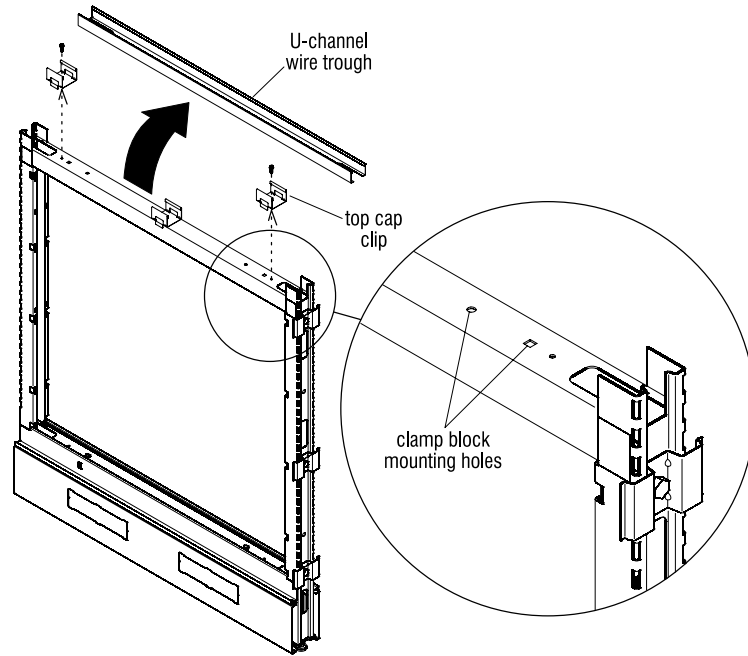
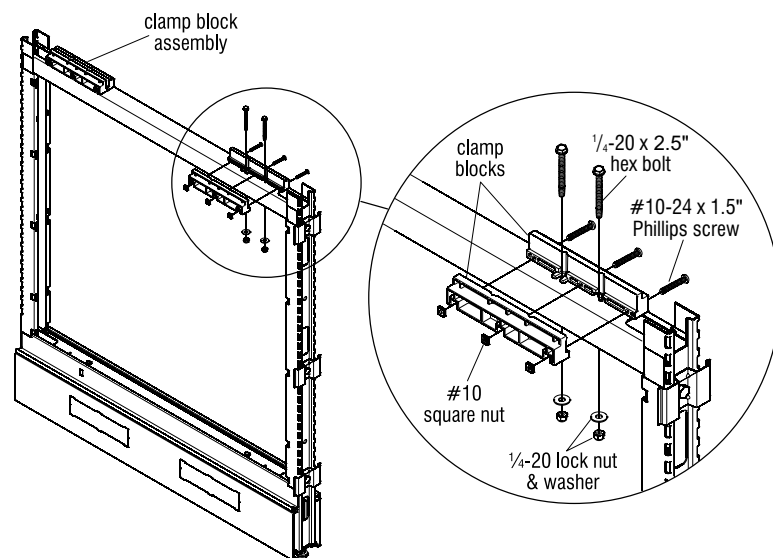

Figure 1 - Wire Trough & Top Cap Clip Removal
Figure 2 - Clamp Block Installation
1. If so equipped, unscrew and remove each U-channel wire trough and any outer top cap clips from the top of the Legion panel frame which will receive glass divider(s). Any center-installed top cap clip can remain on the frame. The removed items may be discarded as they will not be used again (Figure 1).
2. Loosely assemble the pair of clamp blocks as illustrated using #10-24 x 1.5" Phillips screws and square nuts. Do not tighten completely. Position the clamp-block over the indicated holes (the outer hole should be a square hole, see detail at Figure 1 and insert two  $\frac{1}{4}$ -20 x 2.5" hex head bolts down through the top of the panel frame. Install a flat washer and  $\frac{1}{4}$ -20 lock nut onto each hex bolt and tighten snug to frame. Do not tighten completely (Figure 2).
3. Repeat step two and install clamp blocks to other end of panel frame top (Figure 2).